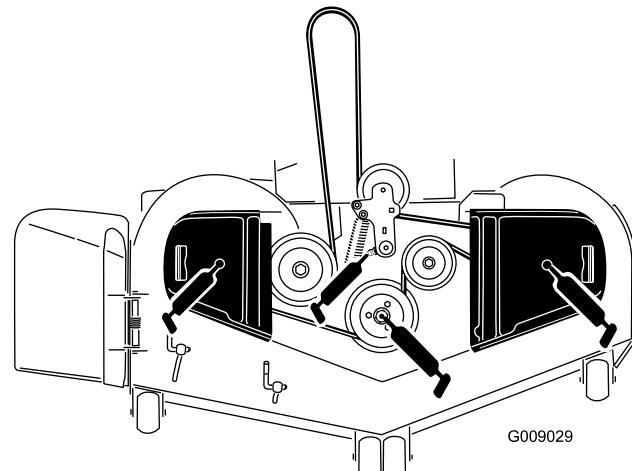

Figure 40
3. Grease the mower deck idler pulley pivot until grease comes out the bottom (Figure 40).
4. Grease the three spindle bearings until grease comes out the lower seals (Figure 40).
5. Grease the drive belt idler arm (Figure 40).